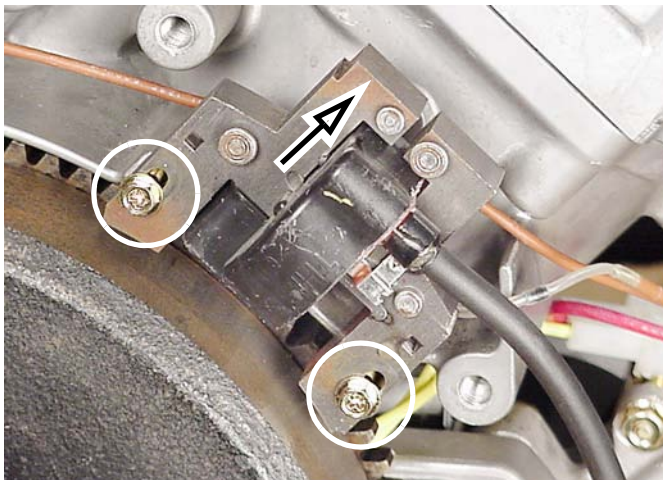

Fig. 155
2. Assemble armature to engine, Fig. 155. Mounting holes in armature are slotted. Push armature away from flywheel as far as possible and tighten one screw to hold armature in place.